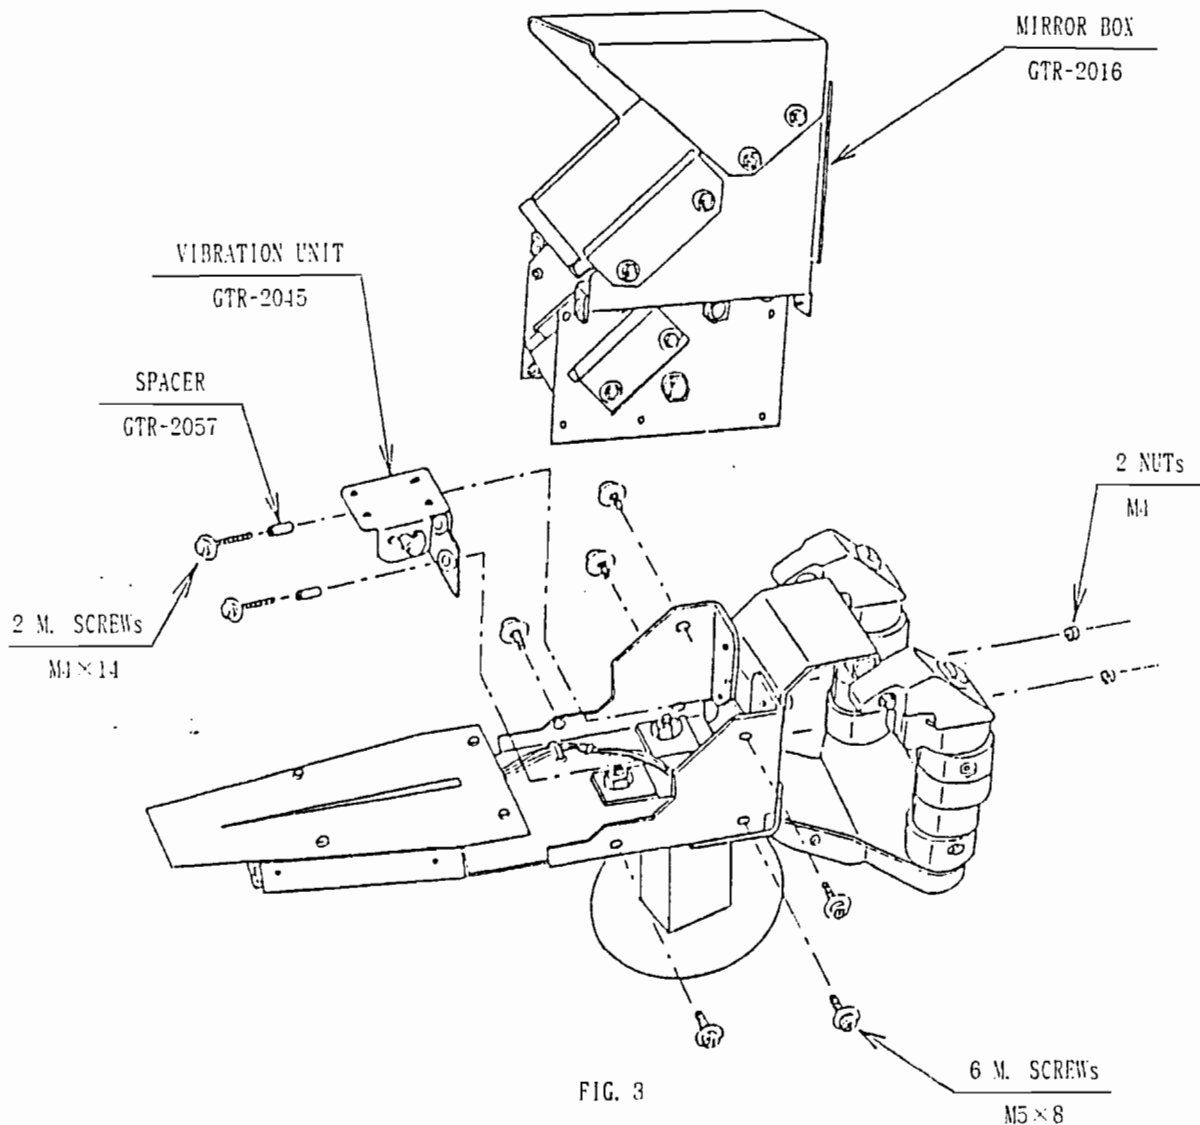

FIG. 3
(3) REMOVING THE VIBRATION UNIT
- ① Take off the 6 machine screws (M5×8) and pull out the mirror box upwards.
- ② Take off the 2 (M4) NUTs and 2 machine screws (M4×14), then remove the vibration unit (see FIG.3).